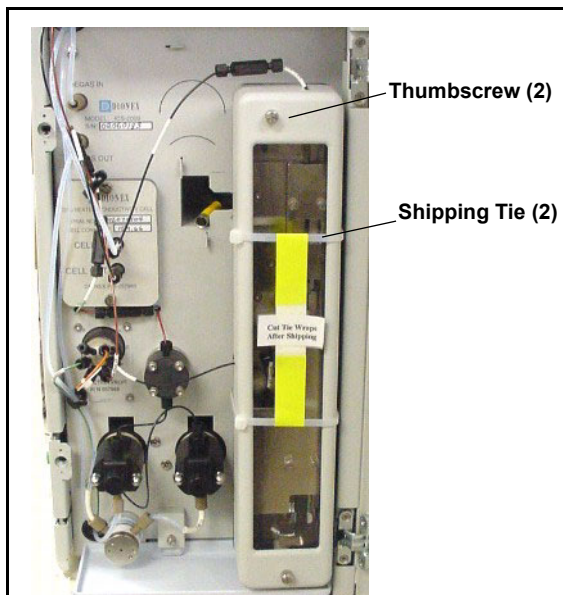

Figure 17. ICS-2000 Column Heater Setup
1. Cut off the two shipping ties from the column heater and remove them (see Figure 17).